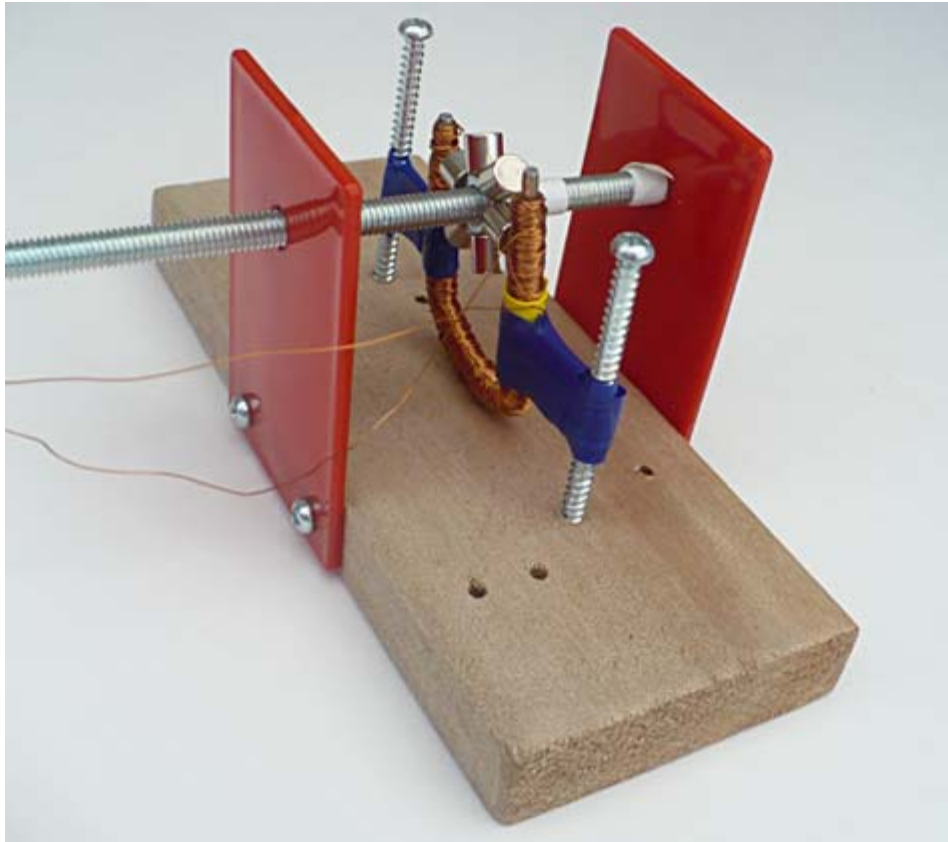

Figure 9. Finished generator using one coil and six neodymium magnets to generate electricity.
Note: If you used materials from the kit to create a wire spool dispenser, you might need to disassemble *part* of, or your entire wire spool dispenser and repurpose the pieces as you build the generator. Let Figure 9 be your guide through the instructions.
- c. Use masking tape to secure the coil in place. Note electrical tape stretches a little and will not do a good job keeping the coil in place. Figure 9, above, shows a finished generator using one coil and six neodymium magnets to generate electricity.